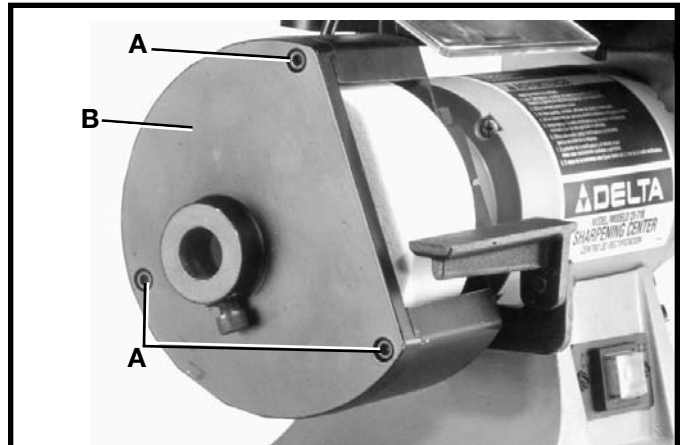

Fig. 60
1. Remove three screws (A) Fig. 60, and side cover (B).